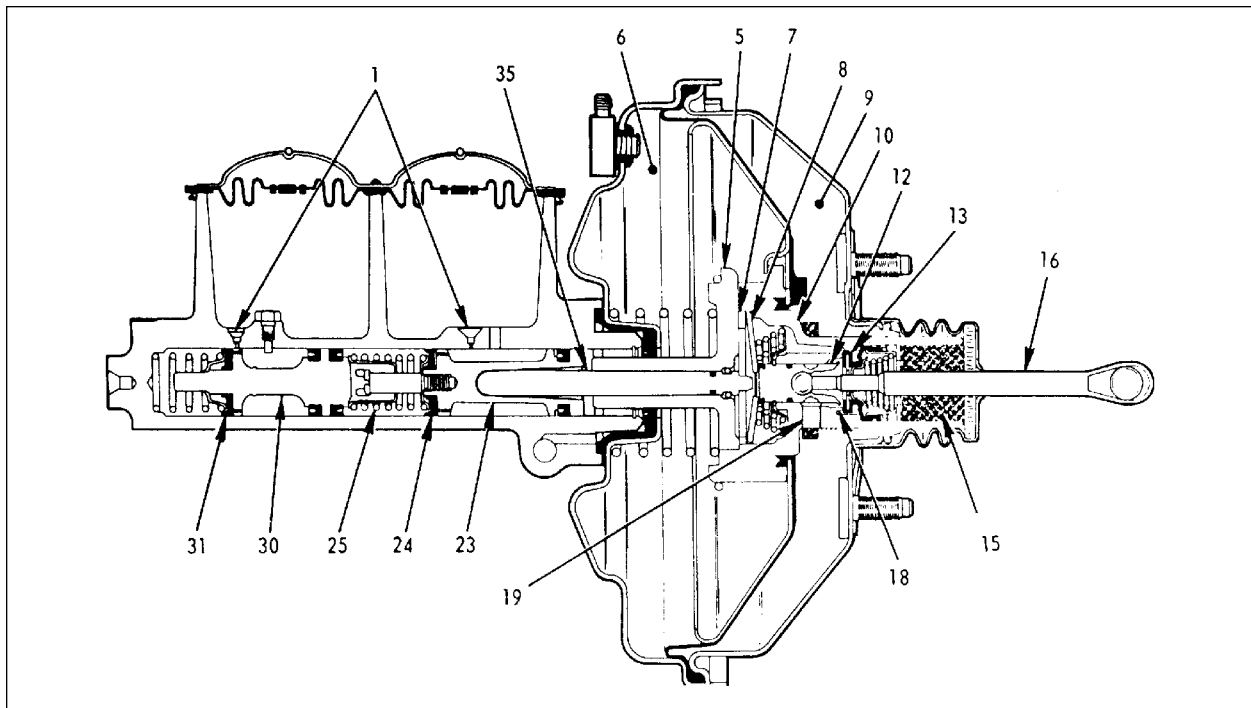

Fig. 2 - Single diaphragm power brake - applied
As the brake pedal is depressed (Fig. 2) the pushrod (16) carries the air valve (12) away from the floating control valve (13). The floating control valve will follow until it is in contact with the raised annular seat (18) in the power piston (10). When this occurs, the vacuum is shut off in the space (9) to the right of the power piston. Air, under atmospheric pressure, rushes through the air filters (15) and travels past the seat of the air valve (12) and through two passageways (19) into the space (9) to the right of the power piston. Since there is still vacuum on the left side of the power piston (6) the force of the air at atmospheric pressure on the right of the piston will force the power piston (10) to travel to the left.